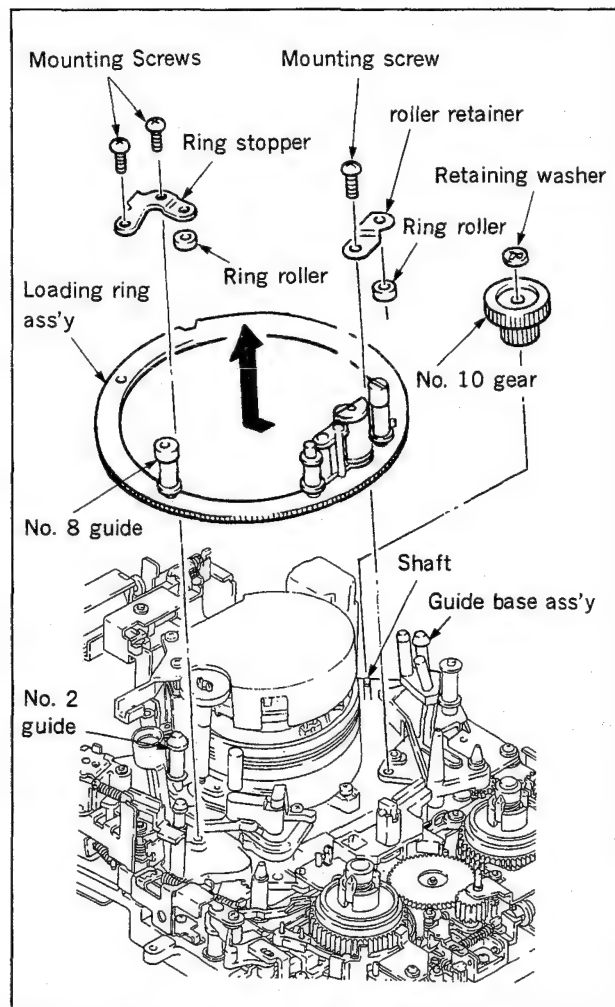

Fig. 4-4-1 Loading ring ass'y removal
5. **No. 10 gear removal (Fig. 4-4-1)**
6. **Roller retainer removal (Fig. 4-4-1)**
7. **Ring stopper removal (Fig. 4-4-1)**
8. **Loading ring ass'y removal (Fig. 4-4-1)**